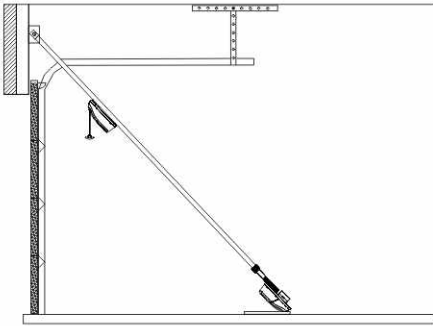

Fig.6
- Raise the Drive Rail up to the Header Bracket so that the Drive Rail sits in between the ears of the Header Bracket. (Fig.6)